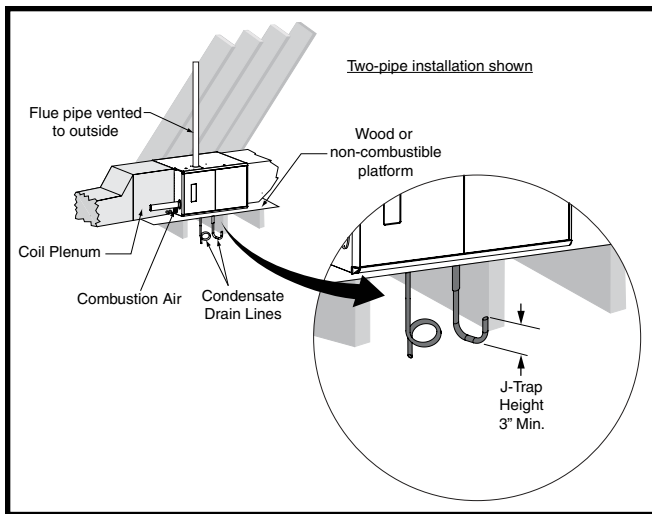
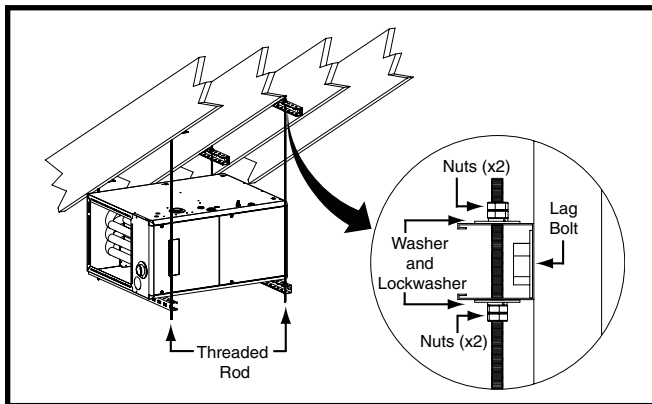

Figure 11. *SC & *SD Horizontal installation on a Platform
Figure 12. *SC & *SD Horizontally Suspended in an Attic
For Installations where there is limited clearance for the J-Trap (such as an attic where it may be installed between ceiling joists), either side of the J-Trap can be shortened to a minimum of 3 Inches. See Figure 11 \(page 15\).
*SC & *SD series gas furnaces can be installed horizontally (Figure 11) in an attic, basement, crawl space or alcove. It can also be suspended from a ceiling in a basement or utility room in either a right to left airflow or left to right airflow as shown in Figure 12 \(page 15\).
If installing the furnace with an evaporator coil (in an attic), it is required that a drip pan be placed under the furnace. If the installation is on a combustible platform as shown in Figure 11, it is recommended that the drip pan extend at least 12 inches past the top and front of the furnace.
If suspending the furnace from the ceiling, assemble a support frame (Figure 12) using slotted iron channel and full threaded rod. Fasten the frame together with nuts, washers, and lockwashers. Secure the support frame to the rafters with lag bolts. The furnace can also be suspended using steel straps around each end of the furnace. The straps should be attached to the furnace with sheet metal screws and to the rafters with bolts.